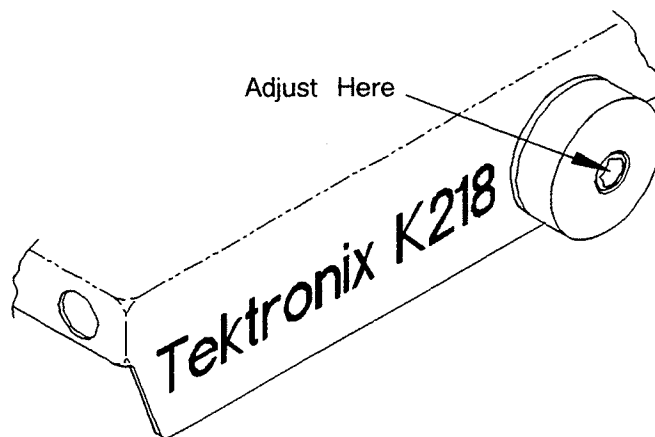

Figure 3: Adjusting the tilt brake
1. Using the 5/16-inch hex key, turn the set screw clockwise to increase the resistance or counterclockwise to reduce it. See Figure 3.